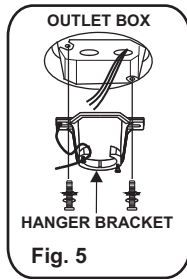

Fig. 5
Step 1. Secure the Hanger Bracket to the ceiling outlet box using the screws provided with your outlet box in conjunction with the lock-washers provided with the fan. (Fig. 5)